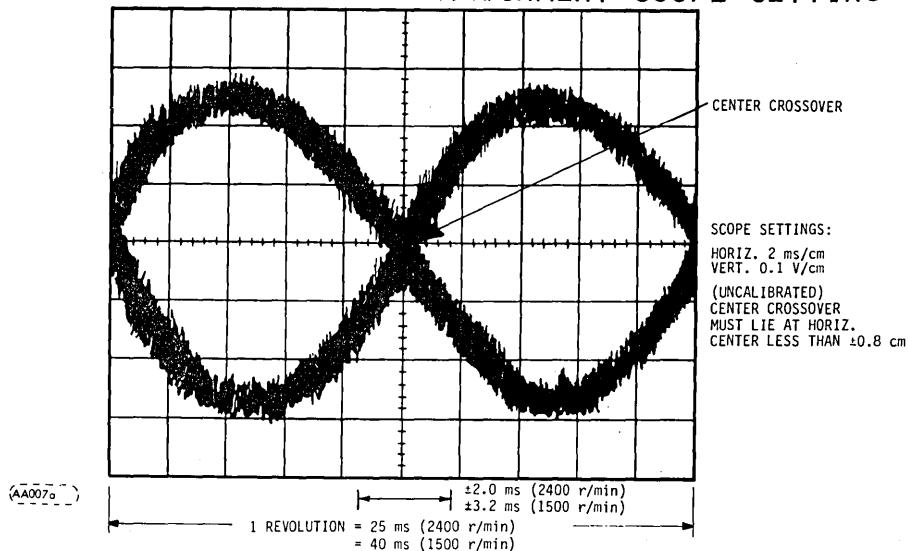

FIGURE LE7-2. HEAD ALIGNMENT WAVEFORM
Head alignment waveform should be as indicated in Figure LE7-2. If center crossover for both upper and lower cartridge heads are within ± 0.8 cm of horizontal center heads need not be adjusted. If alignment is outside this tolerance adjust heads, so that, center crossover is less than ± 0.5 cm of horizontal center.
24. Using the horizontal position control, move the display so that these crossovers are displayed exactly within the 10-cm scope graticle, similar to Figure LE7-2. Do not change the time base established in Step 21 for the balance of this adjustment procedure.
26. Using head alignment tool (CDC #75797900) adjust head for signal shown in Figure LE7-2.
30. Using head alignment tool adjust head for signal shown in Figure LE7-2.